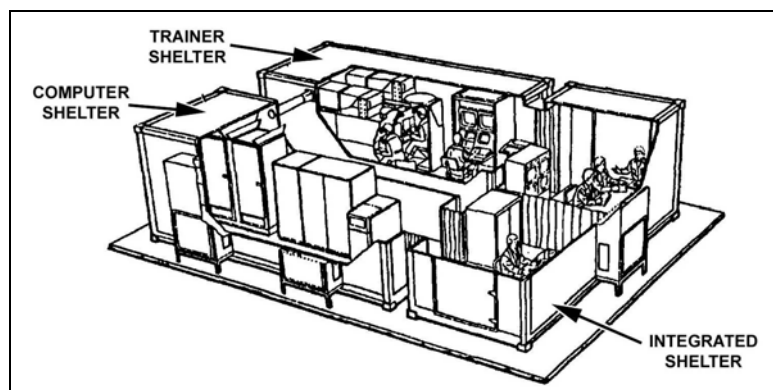

Figure 4-5. Unit conduct-of-fire trainer.
(1) The UCOFT (Figure 4-5) consists of three interconnecting shelters. The instructor's handbook (HB 23-1 series) and TM 9-6920-737-10 describe how to use them: